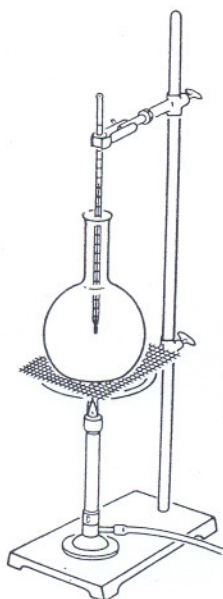

Figure 2-1
b) Obtain a piece of metal (about 10 g) for which the specific heat is to be found. Weigh it to the nearest 0.1 g. Tie it with a string and suspend it above boiling water in a flask as the thermometer is set in Figure 2-1. Do not let the metal get wet. (If water condenses on the metal, pull the metal out, dry, and replace.) Allow sufficient time for the metal to reach the temperature of the vapor from boiling water. Record the barometric pressure. With a graduated cylinder, measure 10.0 mL of distilled water into a test tube. Prop the test tube in the mouth of your 300 mL flask. Measure the temperature of the water to the nearest 0.1°. Withdraw the thermometer, and hold it directly over the test tube so that any drops of water will drain back. Quickly remove the heated metal, and carefully lower it into the water in the test tube. Stir by raising and lowering the metal. Return the thermometer, and note the maximum temperature registered.